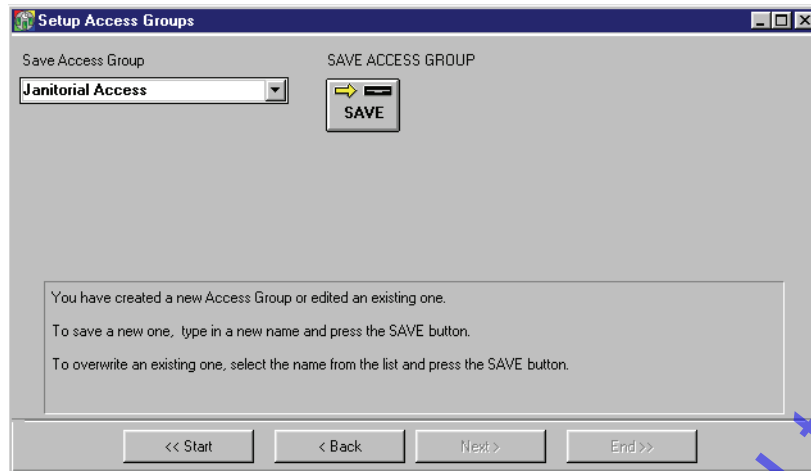

Figure 3-47: Save the Edited Access Group
- Click on the  button and the save Access Group window appears (see Figure 3-47 on page 54 of this section).